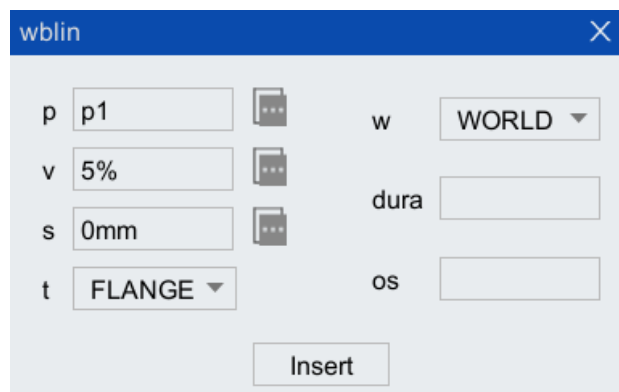

Figure 7-32 Search offset parameter configuration
Step1. Click [Insert cmd/Function pack/weld/Weld Command/wblin] to enter the searching and offset auxiliary programming instruction interface. As shown in Figure 7-32. The parameters description is shown in Table 7-15.